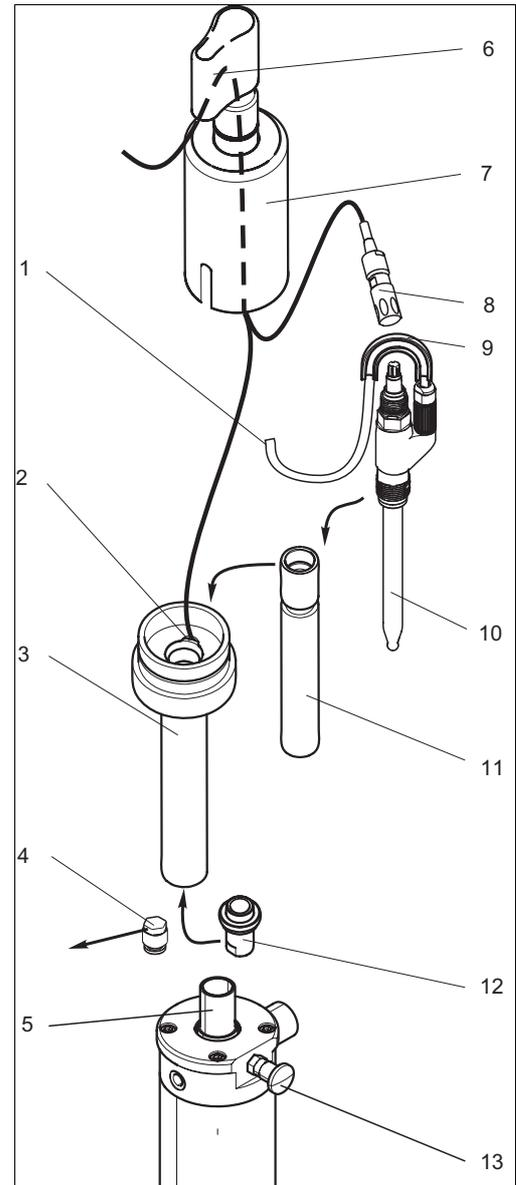

Fig. 16: Liquid KCl electrolyte sensor installation
1. Remove the splash protection cap (Fig. 16, pos. 6) and the KCl hood (pos. 7) incl. the protective tube from the assembly.
2. Then slacken the retractable pipe (pos. 3) by turning it counterclockwise.
- a. Unscrew the tension sleeve (pos. 12) from the inner pipe (pos. 11) and pull the inner pipe out of the retractable pipe.
- b. Install the sensor (pos. 10) into the inner pipe:
5. Insert the measuring cable through the protective tube and the KCl hood (pos. 7):